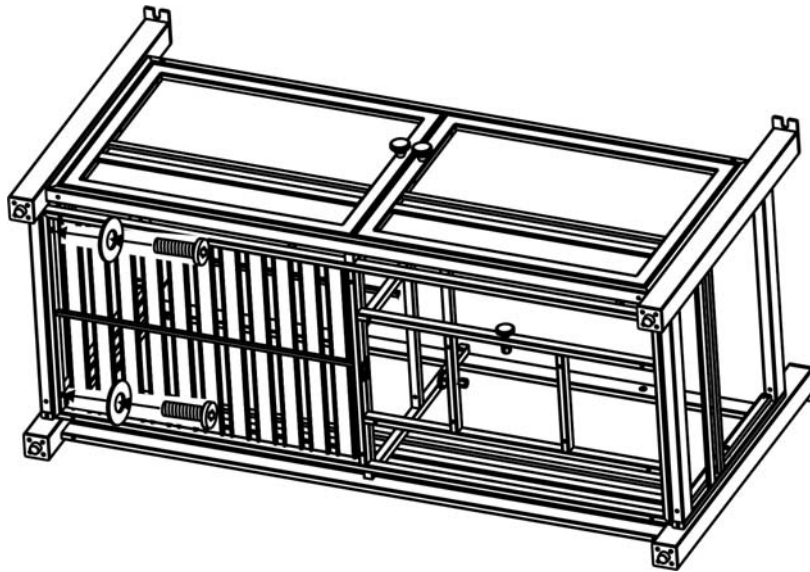

Figure 4
4. Attach the bottom panel to legs on the back panel by using four 1/4"x30 mm bolts and Ø6.5X1.0 mm washers as shown in Figure 4. Guide the bolts through holes in the bottom panel, into pre-drilled holes in the legs. **Hand tighten only.**